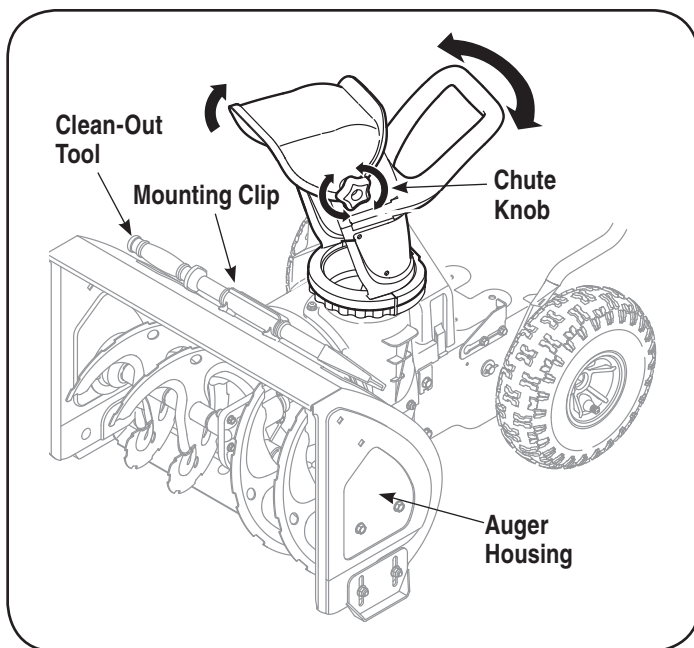

Figure 9
Rotate chute handle to desired operating position. See Figure 9.
- Re-fasten the clean-out tool, with the handle on the right side of the housing, to the mounting clip on the auger housing. You can start operating your snow thrower now. See Figure 9.